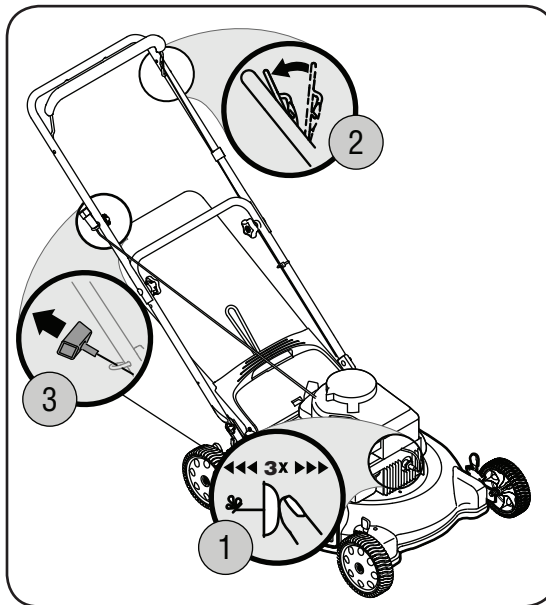

Figure 4-2
2. Standing behind the unit, depress the blade control handle and hold it against the upper handle as shown in Figure 4-2.